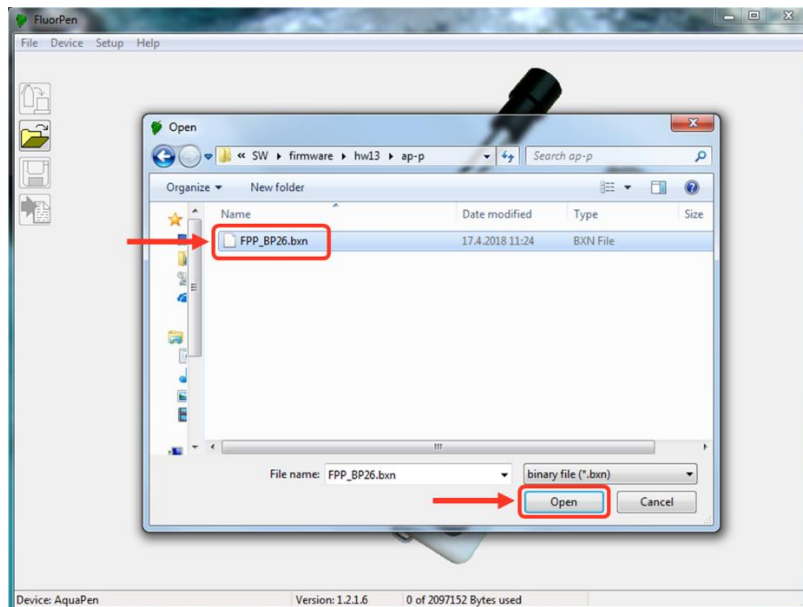

Fig. 17 Select .bxn file.
- Find: Binary file (with the extension .bxn) (Fig. 17).